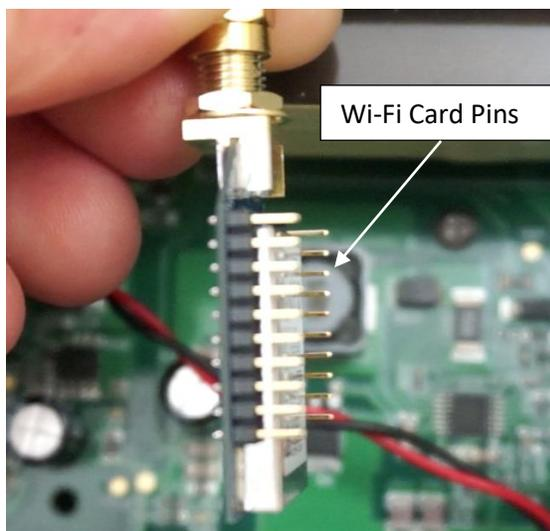

Fig 8
6. Align the pins on the back of the Wi-Fi card with the small holes in the Wi-Fi card receptacle located on the circuit board (Fig. 8).